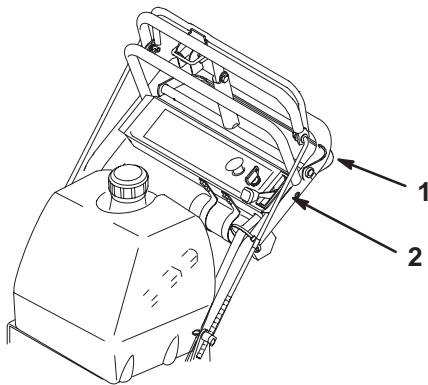

Figure 16
- At the same time engage lower control bar and lift up on handle (Fig. 16 and 17).